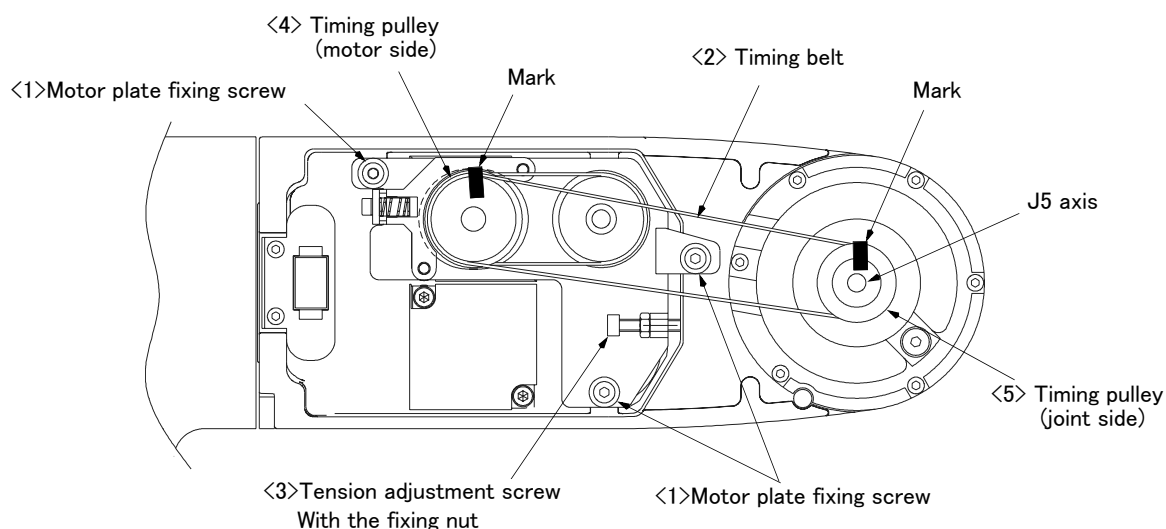

Fig.5-9 : Inspection, maintenance and replacement of J5 axis timing belt
The reference figure at inspection, adjustment, and replacement of the timing belt is shown in Fig. 5-9 .
- 3) Make marks on the timing belt <2> and timing pulleys <4> and <5> with a felt-tip pen as shown in Fig. 5-9 so that the engagement of the timing belt <2> and timing pulleys <4> and <5> does not deviate.
- 3) Loosen motor fixing screw (1). (two pc.) (Do not loosen too much.)
- 4) Move motor side timing belt pulley (4) in the direction of the arrow "a" of Fig. 5-9 , and remove the brake timing belt..